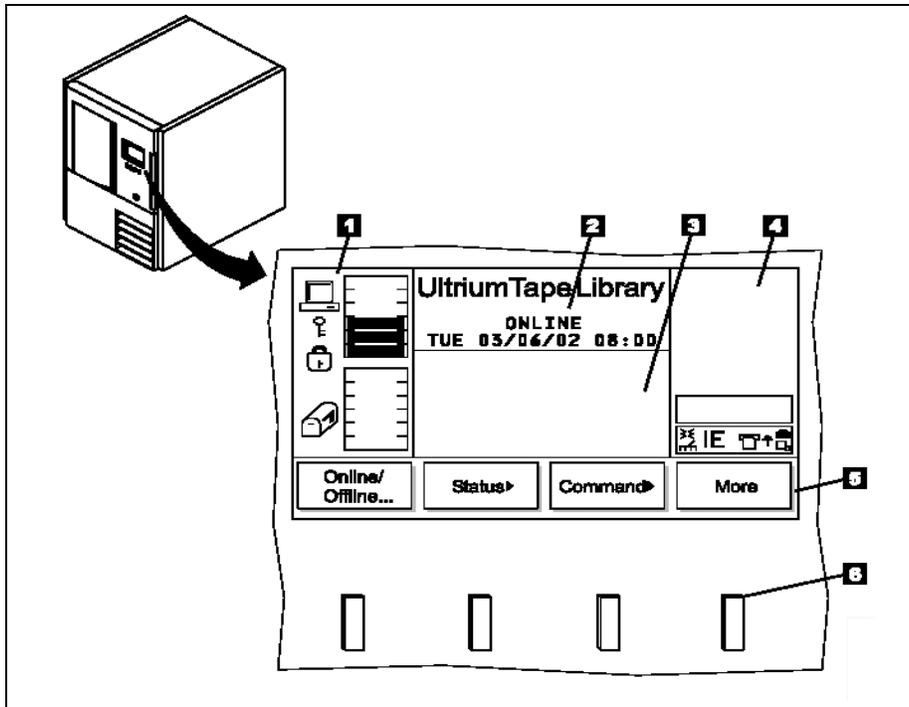

Figure 15-5 IBM 3583 Operator Panel
As shown in Figure 15-5 on page 385, the IBM 3583 Operator Panel has six discrete areas:
- ▶ The I/O station status area provides constant information about the I/O station (label 1 in Figure 15-5 on page 385). The information provided states whether the I/O station is locked. The status of the I/O door and a physical representation of an occupied I/O station slot are indicated by a blacked-out area.
- ▶ The library status area displays informational status, such as the library’s online or offline status, and the library reports status or messages to solicit operator intervention (label 2 in Figure 15-5 on page 385).
- ▶ The message area displays six lines of text, graphic representations, or a combination of both (label 3 in Figure 15-5). Each text line can be up to 20 characters long. The display communicates interactive dialogs, special messages, alerts, and library configurations. More details are in “Using the Operator Panel Menu” in *IBM TotalStorage 3583 Tape Library 3583 Setup and Operator Guide for Multi-Path Libraries, GA32-0411*.
- ▶ The drive status area (label 4 in Figure 15-5) provides constant information about the drives, such as:
- ▶ The soft keys reference the push buttons located beneath them. They are used to perform the commands displayed in the soft keys area and to move through the various displays of the Operator Panel (label 5 in Figure 15-5).
- ▶ Push buttons (label 6 in Figure 15-5) are the actual physical buttons that perform the commands referred to by the soft keys located above each one of them.